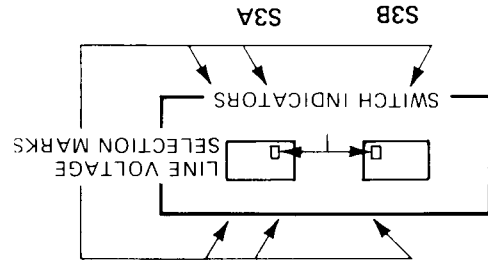

Figure 5-1. 5315A Adjustment Component Locations
5-9. *Figures 5-1* through 5-5 illustrate the location of all adjustments and test points used in the 5315A/B adjustment procedures.
- 5-16. The input offset adjustments are made to the A4 assembly as follows. Refer to *Figures 5-1* or *5-2*.
- 5-14. The 5315A/B produces three regulated dc supply voltages which should be adjusted in the following order. Refer to *Figures 5-1* or *5-2*.